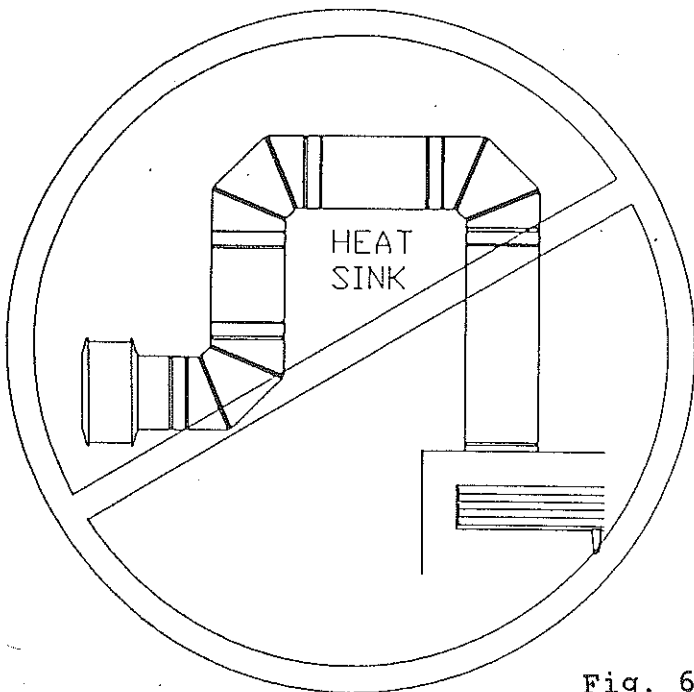

Fig. 6
A) The heat register outlet covers must not terminate below the hot air ductwork outlets to prevent a heat sink. See Figure 6.
CAUTION: Do not terminate the heat register outlet covers below the hot air ductwork outlets to prevent a heat sink. See Fig. 6.